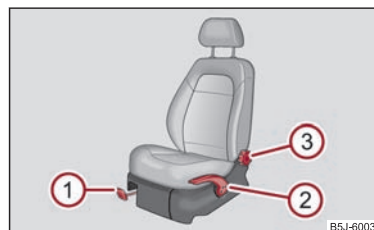

Fig. 50 Controls at seat
- Pull the lever ① ⇒ fig. 50 up and push the seat into the desired position.
- Release the lever ① and push the seat further until the lock is heard to engage.